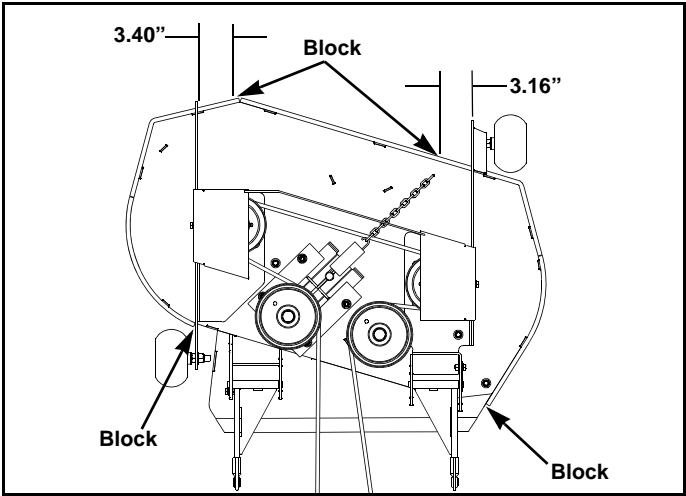

Figure 6-7
3. Place 3" high deck support blocks (two stacked 2" x 4" blocks can be used to create a 3" [7.62cm] high support) at the four corners of the deck as shown. **NOTE:** Back of deck will automatically be set 1/4" (6.35mm) higher. Figure 6-7